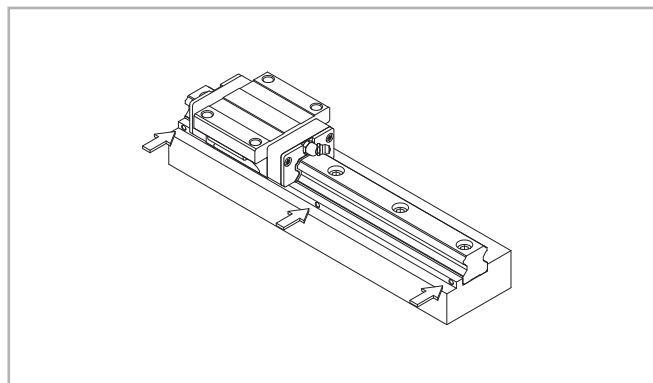

Fig. 54
(3) Tighten the thrust bolts on the guide rail until there is close contact on the side stop surface (see fig. 54).